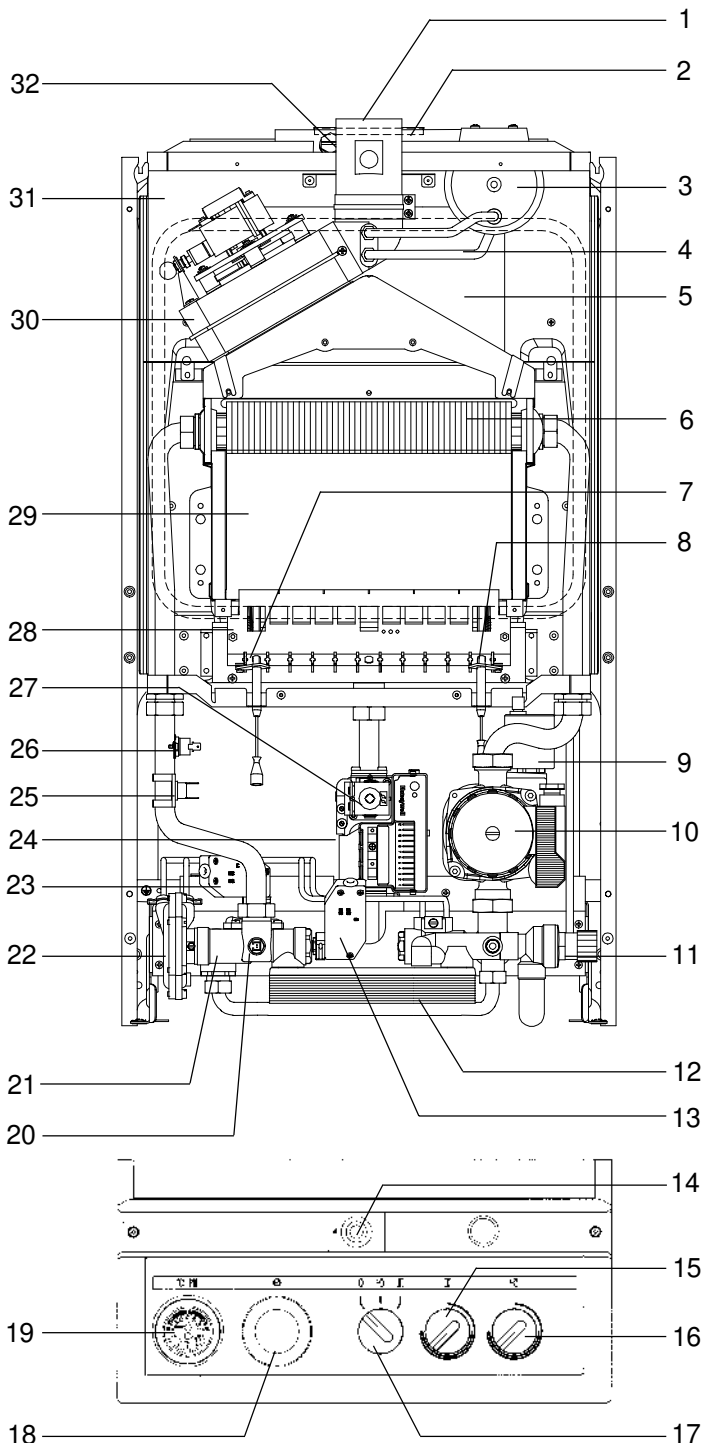

Fig.1 General Layout
- 2.1** Fig.1 illustrates the general layout of components. Fig.2 illustrates the operating principles described below.